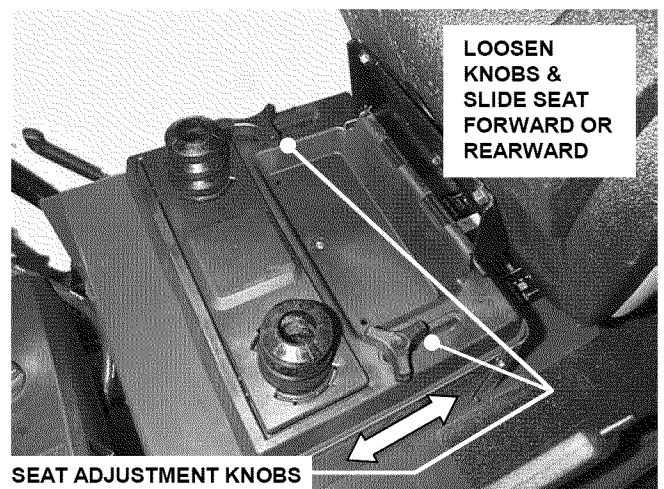

FIGURE 2.3
1. With the engine stopped, loosen the two adjusting knobs located beneath the seat and move seat to desired position. After adjustment, tighten knobs securely. See Figure 2.3.